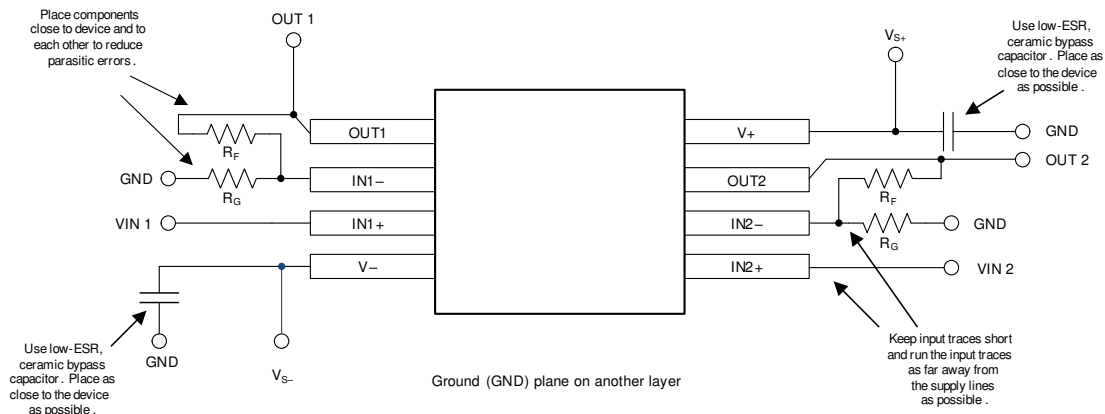

Figure 10-2. Layout Example
- Place the external components as close to the device as possible, as shown in Figure 10-2. Keeping R_F and R_G close to the inverting input minimizes parasitic capacitance.